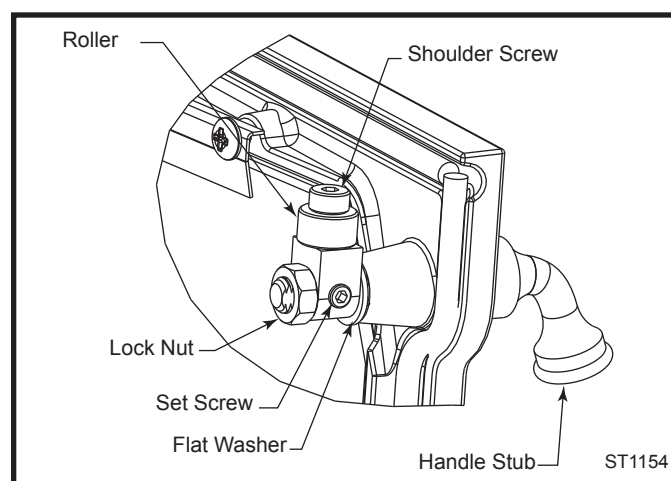

Fig. 13 Rotate pawl and/or remove flat washer to adjust latch.
1. Remove and retain the lock nut with a 9/16" wrench. (Fig. 13)